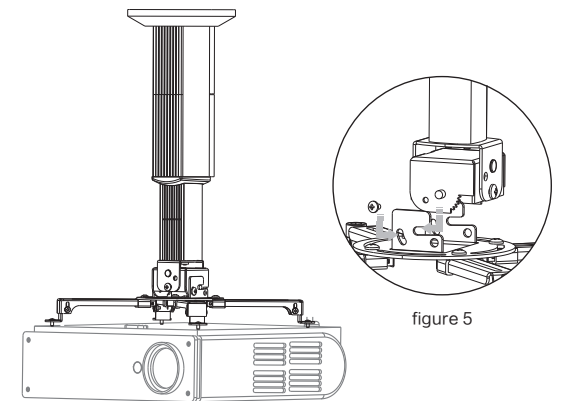

figure 5
- ③ Hang the installation bracket (projector has been installed) to the adjuster as figure 5. And then put in the screws (accessory ④), but do not faster.